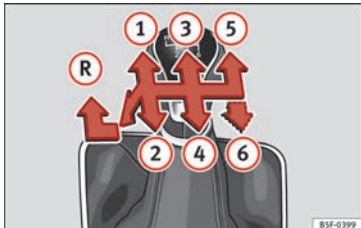

Fig. 54 Gear shift pattern of a 5 or 6-speed manual gearbox.
The position of the gears is indicated on the gearbox lever »» **Fig. 54**.
- With the gearbox lever in neutral, push it downwards, move it to the left as far as it will go and then forwards to select reverse »» **Fig. 54 (R)**.